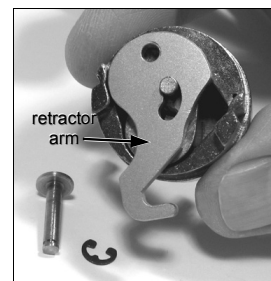

Fig. 2c: The retractor arm placed for LH operation.
- 2c. **Flip over** the retractor arm as shown in Fig. 2c.